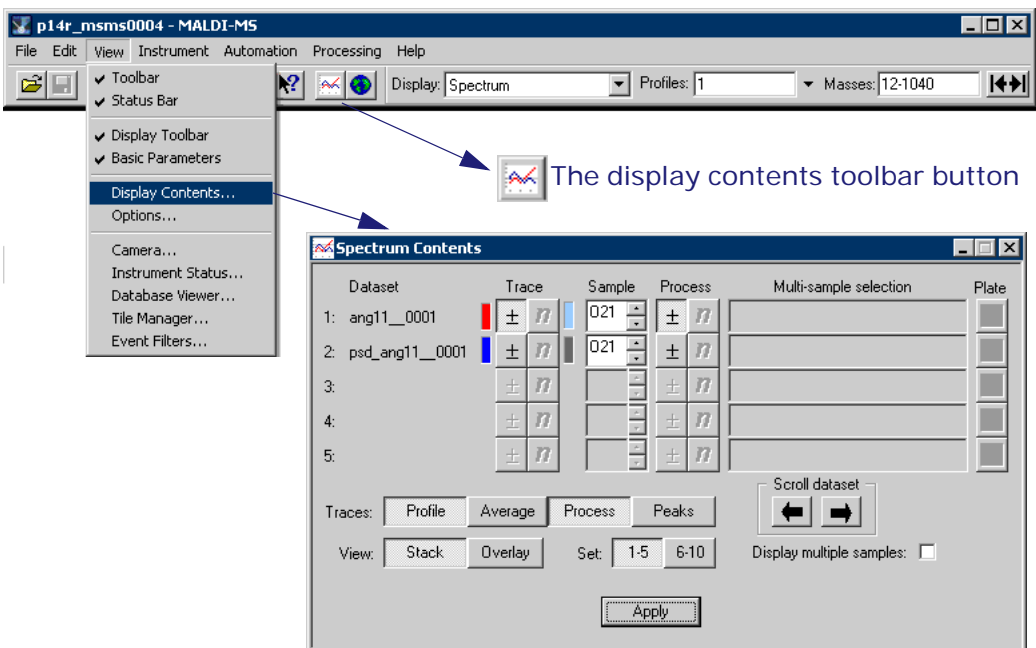

Figure 12.2 "Spectrum Contents" window
2. Select **Display contents** from the **View** menu. Or click on the toolbar display contents button . The "Spectrum Contents" window will appear (Figure 12.2).